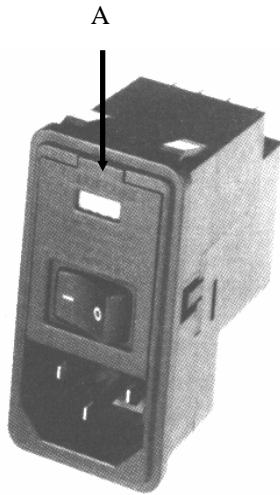
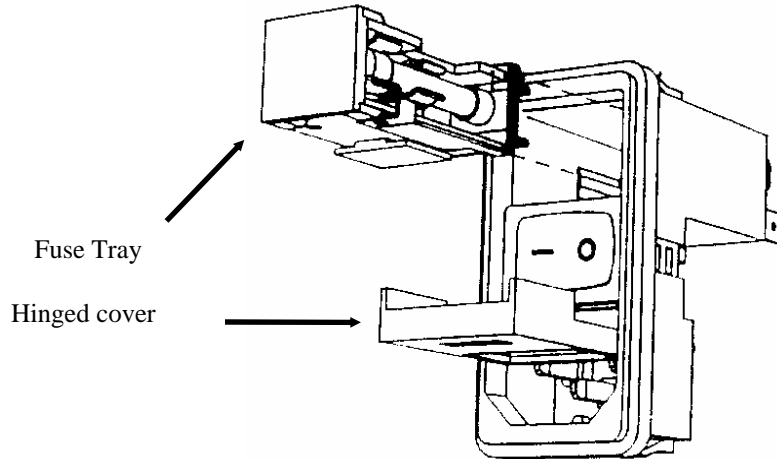

Figure 4
Figure 5
1. Remove the power cord from the power entry module (see Figure 4) located in the rear of the unit.
2. Using a small, flat-blade screwdriver, carefully pry out the power entry module cover at point A, Figure 4. The hinged cover will swing down as shown in Figure 5.
3. Using a small, flat-blade screwdriver, carefully pry out at the top of the fuse tray and carefully remove the tray as illustrated in Figure 5.
6. With the two proper fuses in the tray, orient the tray with the two fuses at the sides and the 230V marking at the top, as shown in Figure 5, and insert it with the metal tabs first into the top of the power entry module until it is firmly seated in place. It may be necessary to squeeze the two fuses at the rear to permit them to enter the power module housing. Close the power entry module cover by pressing at the top center until it snaps into place. Insert a suitable 230V power cord.
5. Observe the shorting clip placement as shown in Figure 6. Place a shorting clip by hand onto the tray as follows. The tray must be oriented as drawn (the marking PRSR will be at the top of the fuse tray front). The clip must be oriented as shown with the "finger" at the center pointing toward the front of the tray. Do not bend this finger or the required connections will not be made. Grasping the clip only at the sides, slide it down into place on the tray. The base of the clip will insert into the cavity in the tray when it is placed in the correct position. Place one fuse into the compartment in the side of the fuse tray opposite the side with the clip. The fuse rating must be as shown on the back of the unit cabinet. A 20 mm long European fuse must be placed fully to the rearmost end of the tray (closest to the metal tabs extending from the tray) or contact will not be made and the unit will not operate. Both the clip and the fuse must be present in their proper places or the unit will not operate. With the clip and proper fuse in the tray, orient the tray with the fuse at the side and the 115V marking at the top, as shown in Figure 5, and insert it with the metal tabs first into the top of the power entry module until it is firmly seated in place. It may be necessary to squeeze the fuse at the rear to permit it to enter the power module housing. (If the clip and fuse are on the incorrect sides of the tray, it will not be possible to place the tray into the power entry module). Close the power entry module cover by pressing at the top center until it snaps into place. Insert a suitable 115V power cord.